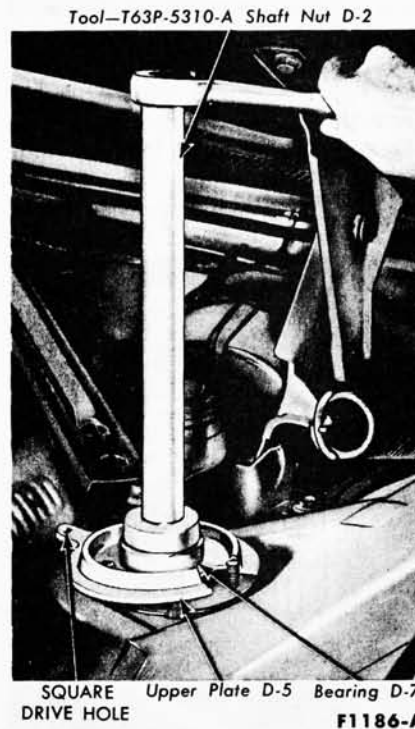
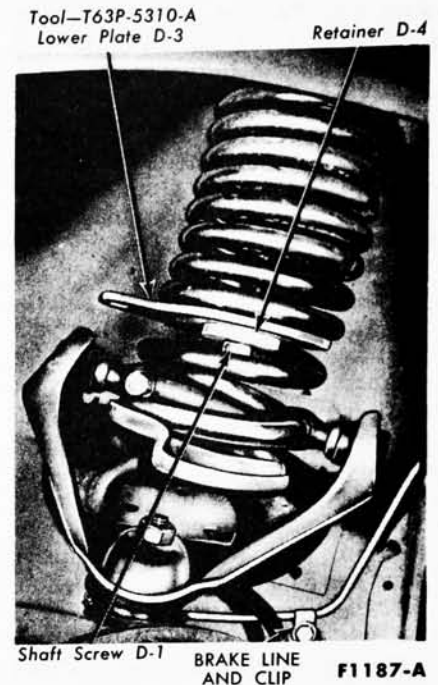

FIG. 6—Compressing or Releasing Spring—Upper View
FIG. 7—Compressing or Releasing Spring—Lower View
3. Raise the car slightly in order to lower the suspension upper arm. Install spring tool T63P-5310-A. Slide the tool bearing and upper plate over the shaft screw against the shaft nut. Insert the tool assembly through the upper opening in the spring housing so that the shaft screw goes through the top of the coil spring with the tool upper plate holes going over the studs as shown in Fig. 6.
4. From under the car, place the tool lower plate under the fourth coil from the bottom. Secure the plate to the coil by installing the tool retainer in the groove in the shaft screw (Fig. 7).
5. Insert a 1/2-inch square drive flex-handle wrench in the drive hole in the lower plate to prevent the tool with spring from turning (Fig. 7). While holding the tool, compress the spring by turning the tool shaft nut clockwise (Fig. 6).
9. Fully release the spring tension by turning the tool shaft nut counterclockwise (Fig. 6). Be sure to hold the lower plate of the tool with the 1/2-inch square drive flex-handle wrench so that the tool will not turn or snap loose during spring release (Fig. 7).
shaft nut. Position the spring from under the car so that its upper end is seated in the spring housing. Insert the tool assembly through the upper opening in the spring housing so that the shaft screw goes through the top of the coil spring with the tool upper plate holes going over the studs as shown in Fig. 6.
6. Compress the spring by turning the tool shaft nut clockwise (Fig. 6). Hold the tool lower plate from turning during spring compression. Use the $\frac{1}{2}$ -inch square drive flex-handle wrench.
10. **Partially** release the spring tension by turning the shaft nut of tool T63P-5310-A counterclockwise (Fig. 6). As the spring is being released, pry the lower coil so that it will seat in the groove of the upper arm. **Hold the tool lower plate with the square drive wrench.**